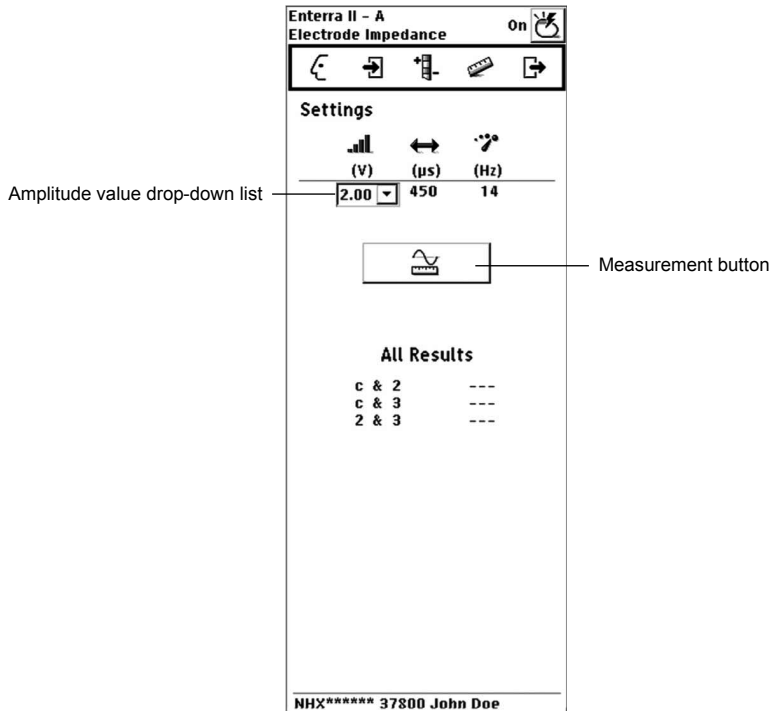

Figure 19. Electrode Impedance screen.
3. Select the **Measurement** button (Figure 19).